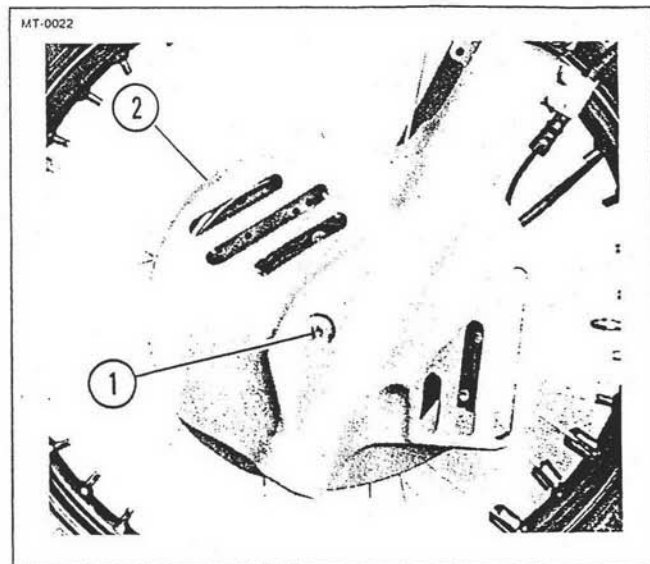

Figure 2-28. Front Brake Dust Shield
1. See Figure 2-28. Using a 4 mm hex key, remove socket head screw (1), lock washer, flat washer, and dust shield (2) from front brake assembly.